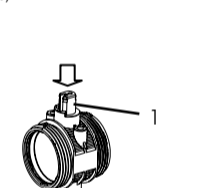
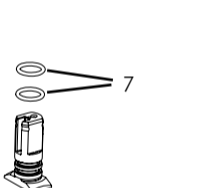

Fig.10
Fig.11
To replace the shaft, it has to be forced as shown in Fig.10. Once the shaft has been removed (1) the O-rings can be replaced (7) Fig.11.
When reassembling the shaft, check that its slot is aligned/oriented with the housings in the neck of the body (see Fig.10).